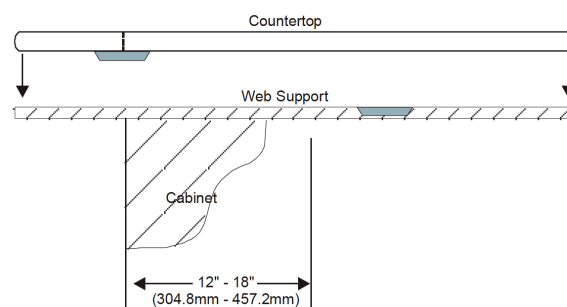

Figure 38B
- When brackets (corbels) are used, place them no more than 24" (609.6mm) apart. In addition, place brackets 12" (304.8mm) from open ends and against wall ends. (FIG. 38B & 38C)